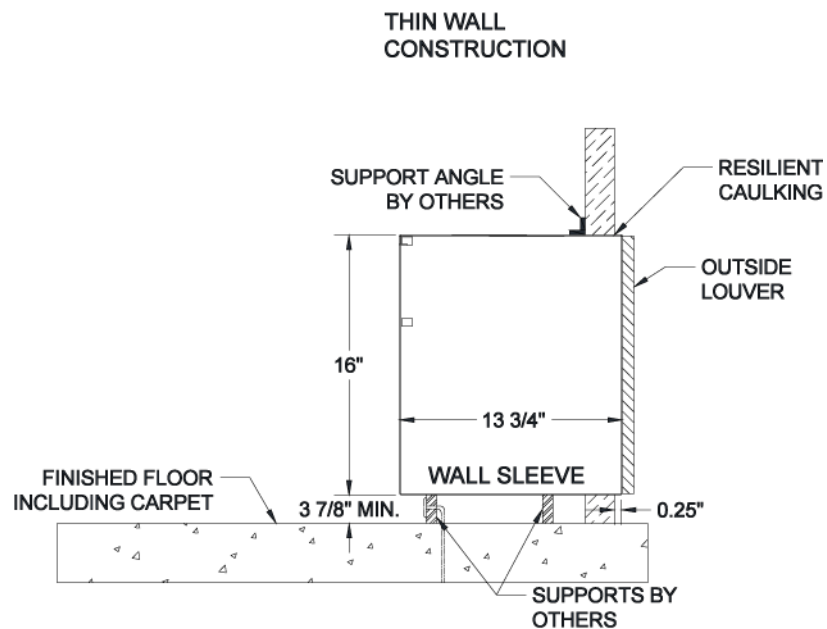

Figure 1
2. Push the sleeve through the wall opening so that a minimum of 1/4" (6mm) projects past the outside wall. This will provide a fillet area for caulking (refer to figure 1). The center of gravity is approximately 10 3/4" (273mm) from the rear face of